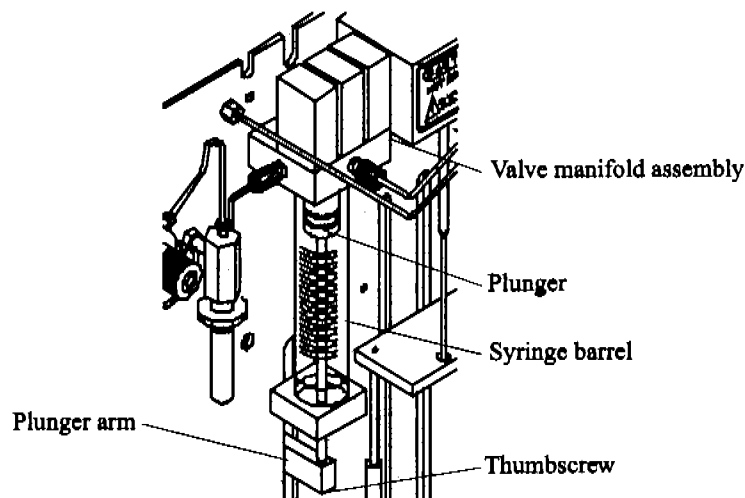

Figure 5.5. Syringe assembly
1. Remove the plunger assembly from the glass syringe (Figure 5.5).